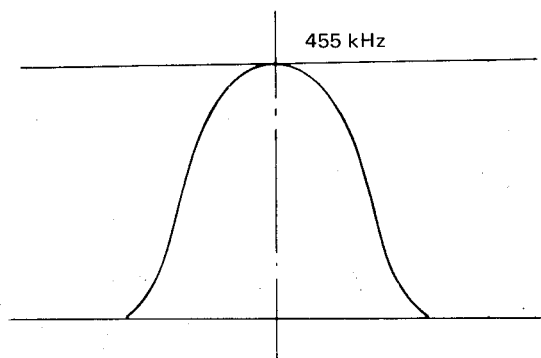

Figure 6
- Stop down the sweep output as much as possible so that waveform level shown in Fig. 6 is attained.
- Adjust TA02 TA04 to get such IF waveform as shown in Fig. 6.